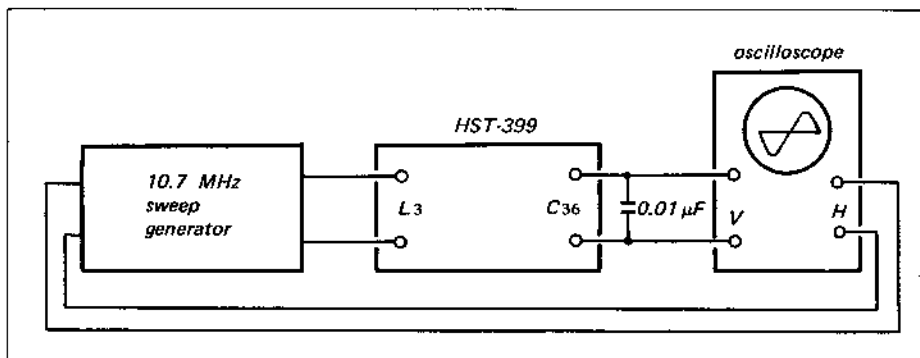

Fig. 3-11 Discriminator alignment test setup, sweep generator alignment
1. With the equipment connected as shown in Fig. 3-11, set the sweep generator's controls as follows: